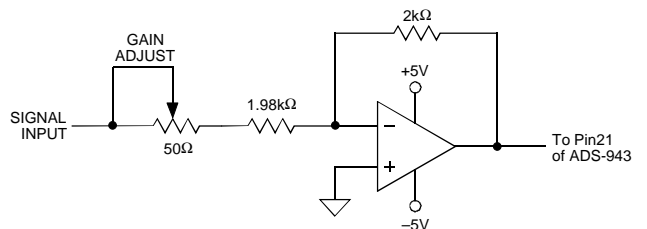

Figure 2. Optional ADS-943 Gain Adjust Calibration Circuit
2. The ADS-943 achieves its specified accuracies without the need for external calibration. If required, the device's small initial offset and gain errors can be reduced to zero using the adjustment circuitry shown in Figures 2 and 3.
Any offset and/or gain calibration procedures should not be implemented until devices are fully warmed up. To avoid interaction, offset must be adjusted before gain. The ranges of adjustment for the circuits in Figures 2 and 3 are guaranteed to compensate for the ADS-943's initial accuracy errors and may not be able to compensate for additional system errors.